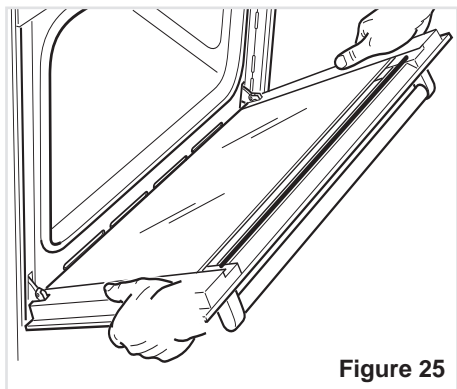

Figure 25
- Hold the door as shown in fig. 25.